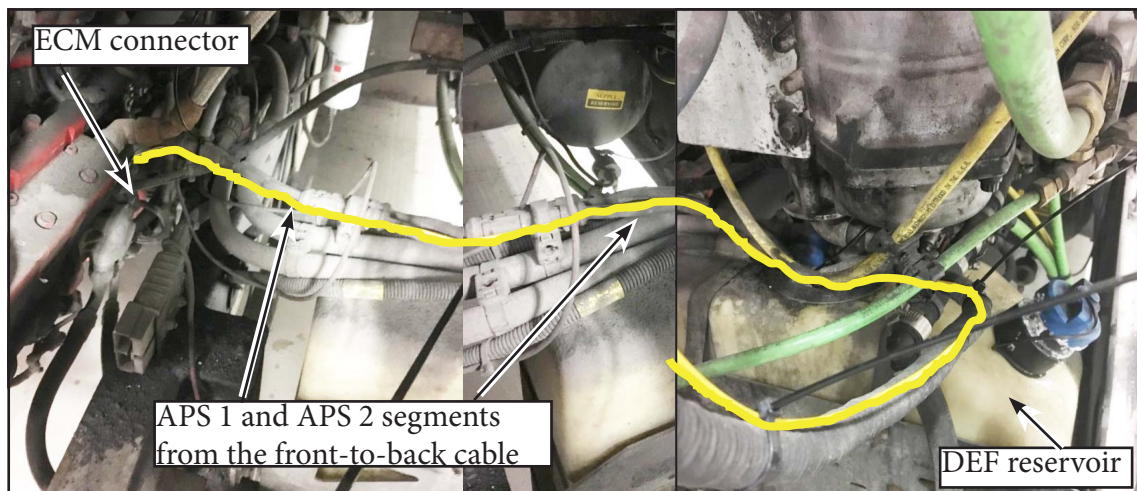

Figure 30 - Front-to-Back Cable Routing to the ECM Connector
- 2.17. Continue routing and tie-wrapping the front to back cable down over the DEF reservoir towards the ECM connector (see Figure 30).